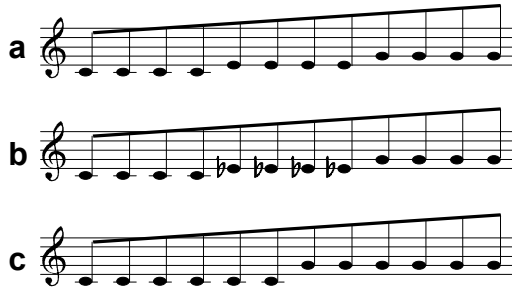

fig. 4: Major chord (a), minor chord (b) and fundamental+fifth (c)
In the "**Chord**" position only voltages corresponding to the chord type selected with switch ① (major or minor) are passed to the control voltage output (see fig. 4 a+b).
In the "Quint" position only voltages corresponding to the fundamental or the fifth are passed to the control voltage output (see fig. 4 c).